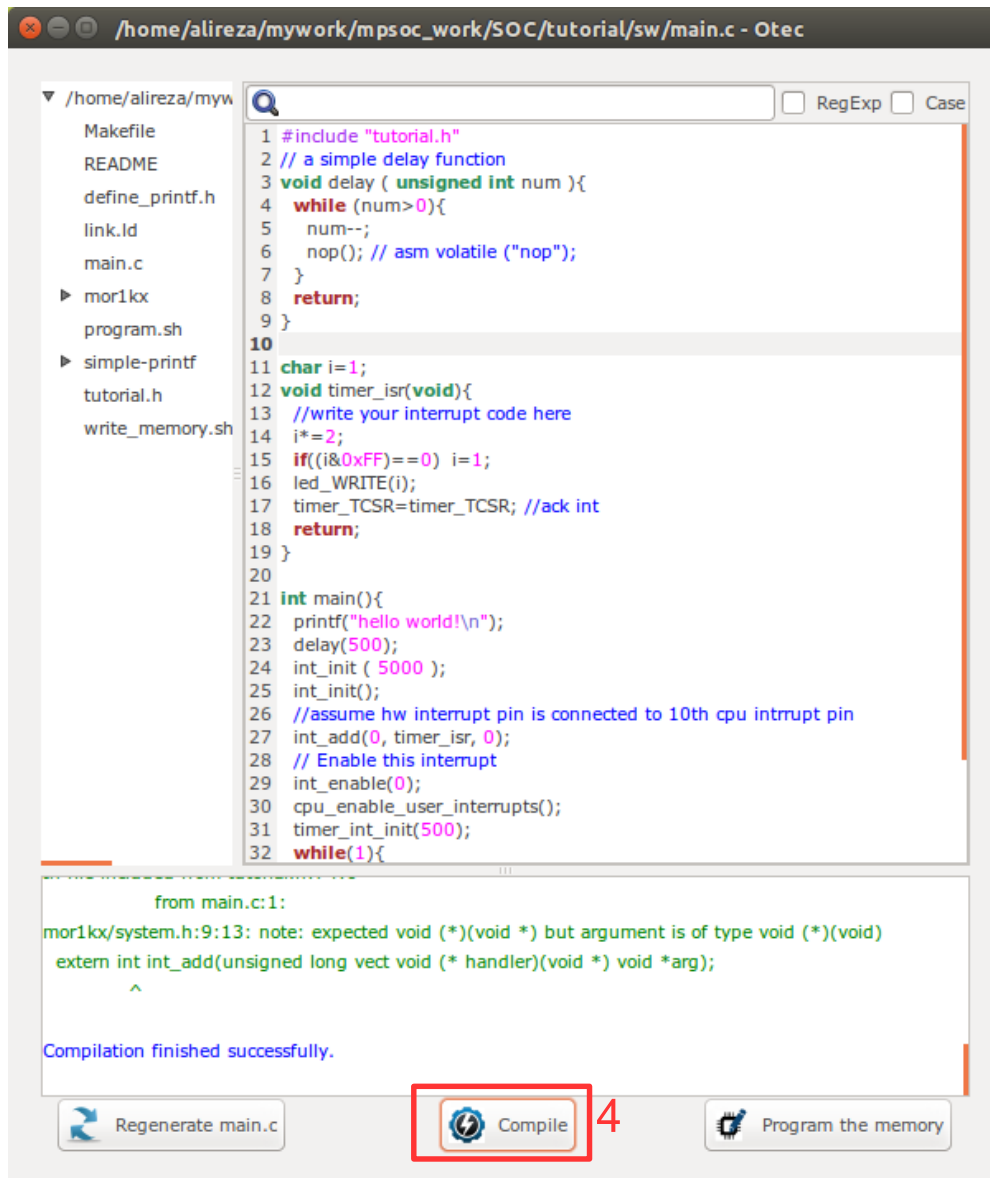

Figure 5.15: Compile the software code.
- Now press the compile button. This will compile the C code using Mor1kx GNU toolchain. If everything is ok you must see "compilation finished successfully" message as shown in Figure 5.15. Otherwise, check the error message to fix your code and press the compile button again. If every thing run successfully you must have ram0.bin, ram0.hex, and ram0.mif files in your sw/RAM directory.